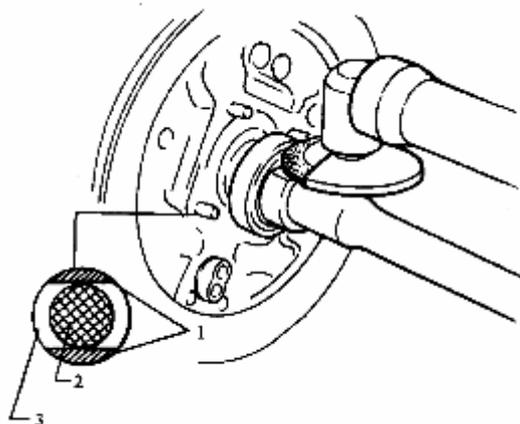

FIG 13-11
(2) Check half-axle bearing for wear. The outer surface of bearing spacer should not be with obvious groove, replace bearing and spacer if necessary. When removing , polish bearing spacer by using grinding wheel until the thick is 1~1.5mm because the match of bearing spacer and half-axle is more tight.(FIG. 13-11)